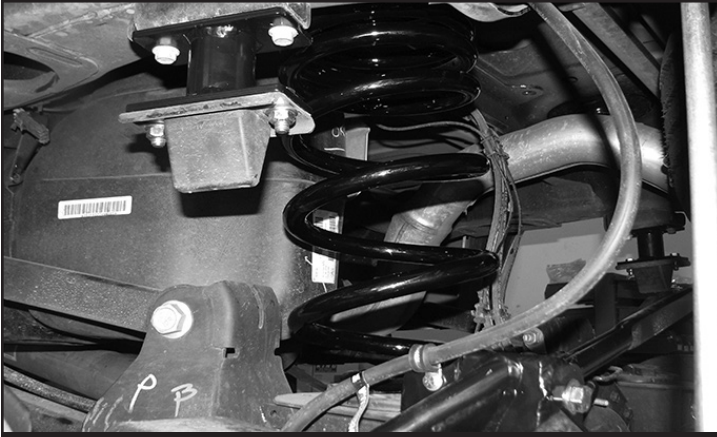

FIGURE 83 - STEP 66
66. Locate and Install (FT44279BK) Fabtech rear spring using the factory rubber isolators as shown. **SEE FIGURE 83**